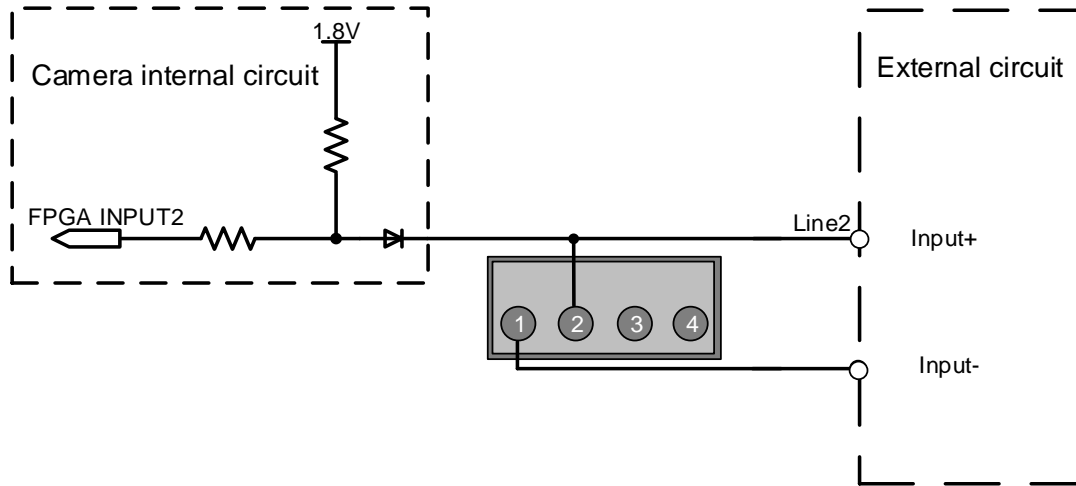

Figure 7-6 Internal equivalent circuit of camera when Line2 is configured as input
- When Line2 is configured as input, the internal equivalent circuit of camera is shown in Figure 7-6